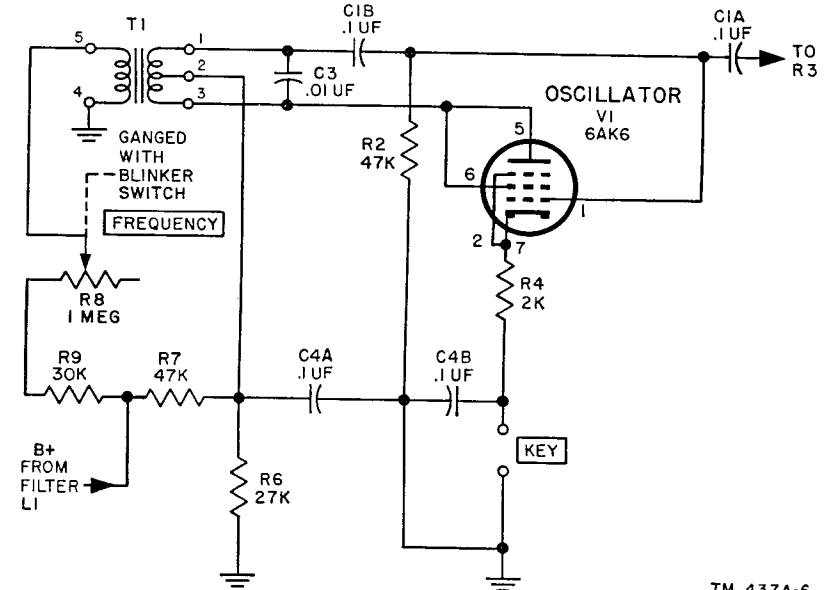

Figure 8. Oscillator circuit, simplified schematic diagram.
(fig. 8)
- c. Simplified schematic diagrams (figs. 8, 9, 10, and 11).